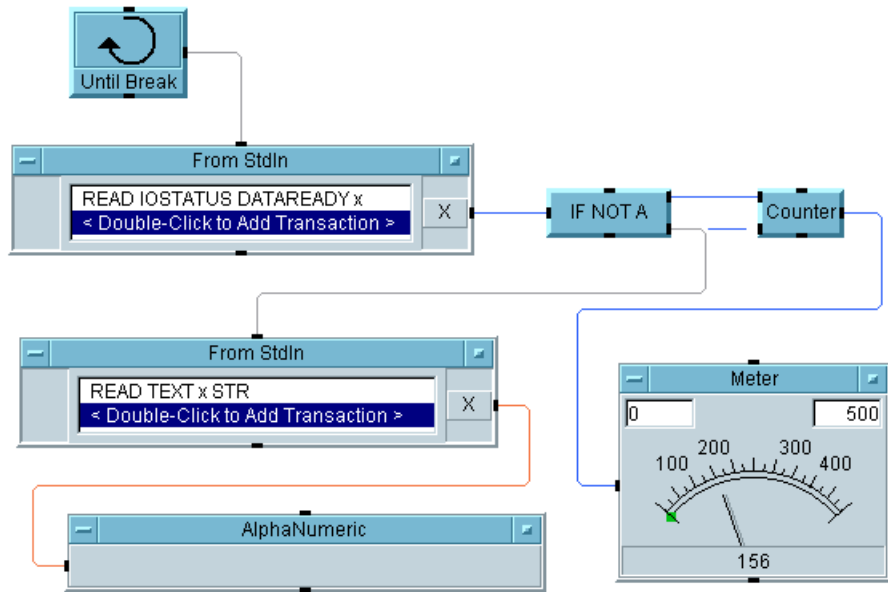

Figure 4-10. Using `READ IOSTATUS DATAREADY` for a Non-Blocking Read
Figure 4-10 shows a program where `READ IOSTATUS DATAREADY` is used to detect data on the StdIn pipe.
The program in Figure 4-10 shows the use of a `READ IOSTATUS DATAREADY` transaction in `From StdIn`. The transaction returns a zero (0) if no data is present on the `stdin` pipe. If data is present, a one (1) is returned. The `If/Then/Else` is used to test the returned value of the `READ IOSTATUS DATAREADY` transaction. If the result is 1, the second `From StdIn` is allowed to execute, reading the data typed into the VEE start-up terminal window.